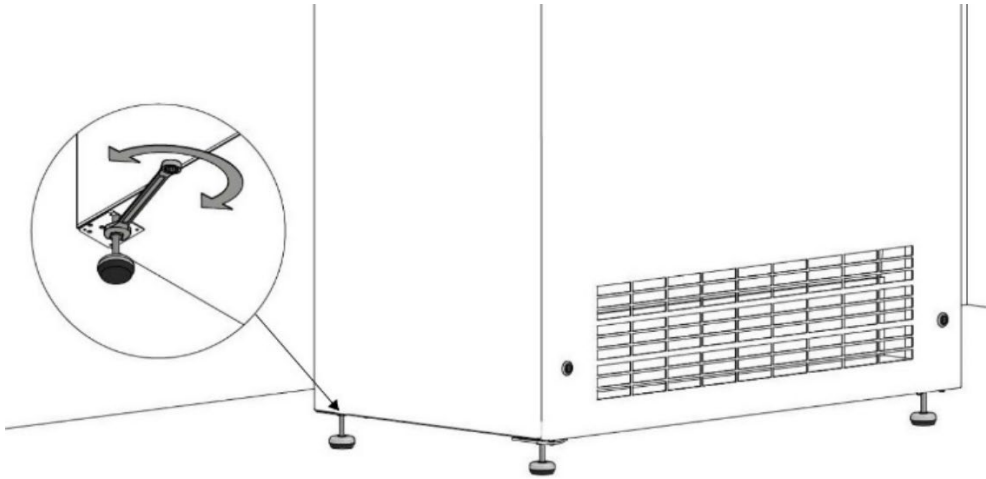

Figure 6: Adjust the feet to level the unit
3. Adjust the feet to make the unit level, see Figure 6 below.